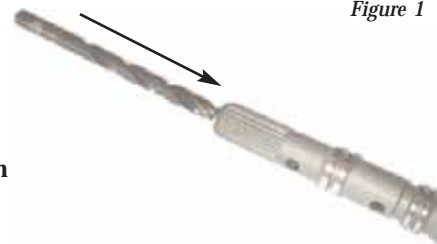

Figure 1
1. Press out the inner tube and end plug by using a  $1\frac{1}{4}$ " (.265" diameter) transfer punch or blunted drill bit (Figure 1).